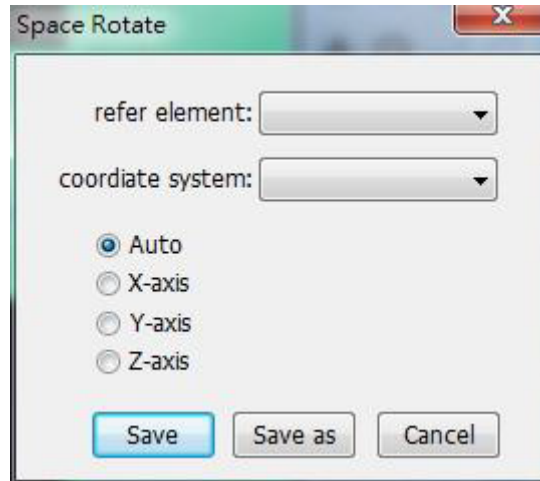

Fig.6-3
6.1.2 Set up three dimension coordinate (Fig.6-3)